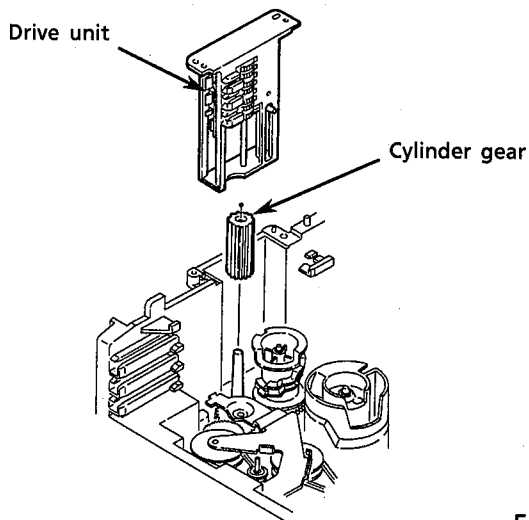

Fig. 42
3. Remove the drive unit and cylinder gear. (See Fig.42.)